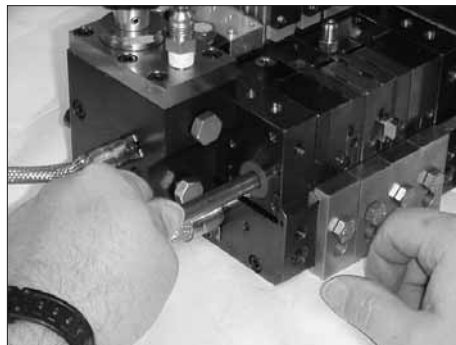

Figure 7-34 Installing the pump shaft
7. See Figure 7-34. Slide the pump shaft assembly into the applicator. It may be necessary to slightly rotate the shaft in each direction while inserting it to fully seat the shaft.